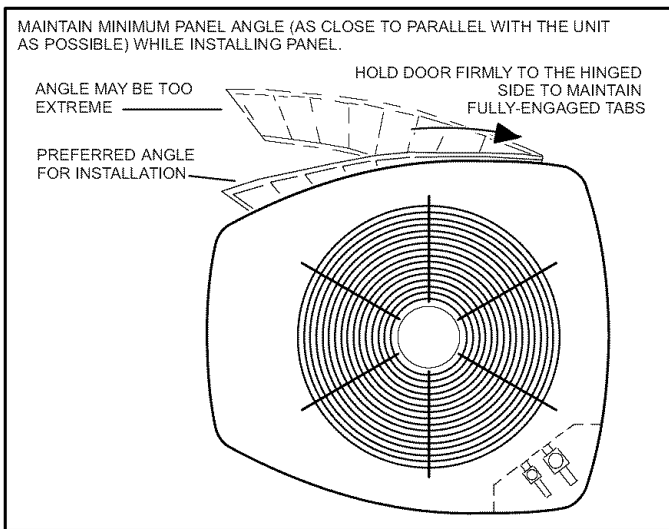

Figure 12. Removing/Installing Louvered Panels (Detail D)
1. Position the panel almost parallel with the unit as illustrated in figure 12, detail D with the screw side as close to the unit as possible.